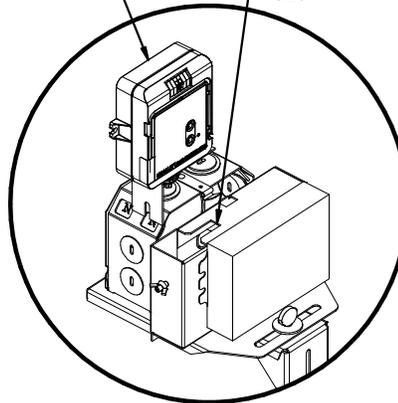

FIGURE 2
4. Insert the female connector through the top opening on the driver assembly (FIGURE 2). Snap the female connector on the Vive controller to the male connector on the driver assembly.